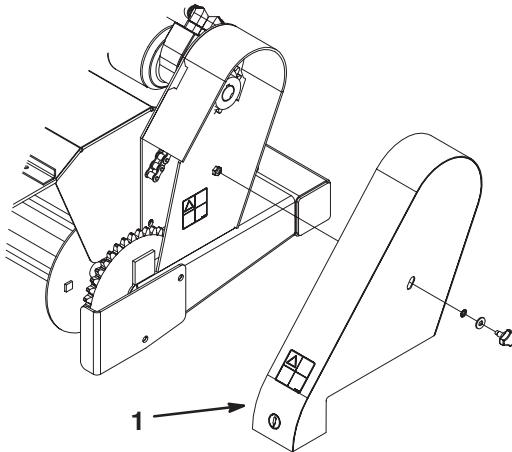

Figure 20
1. Remove retainer knob, flat washer and retaining ring securing chain cover to frame and remove cover (Fig. 20).